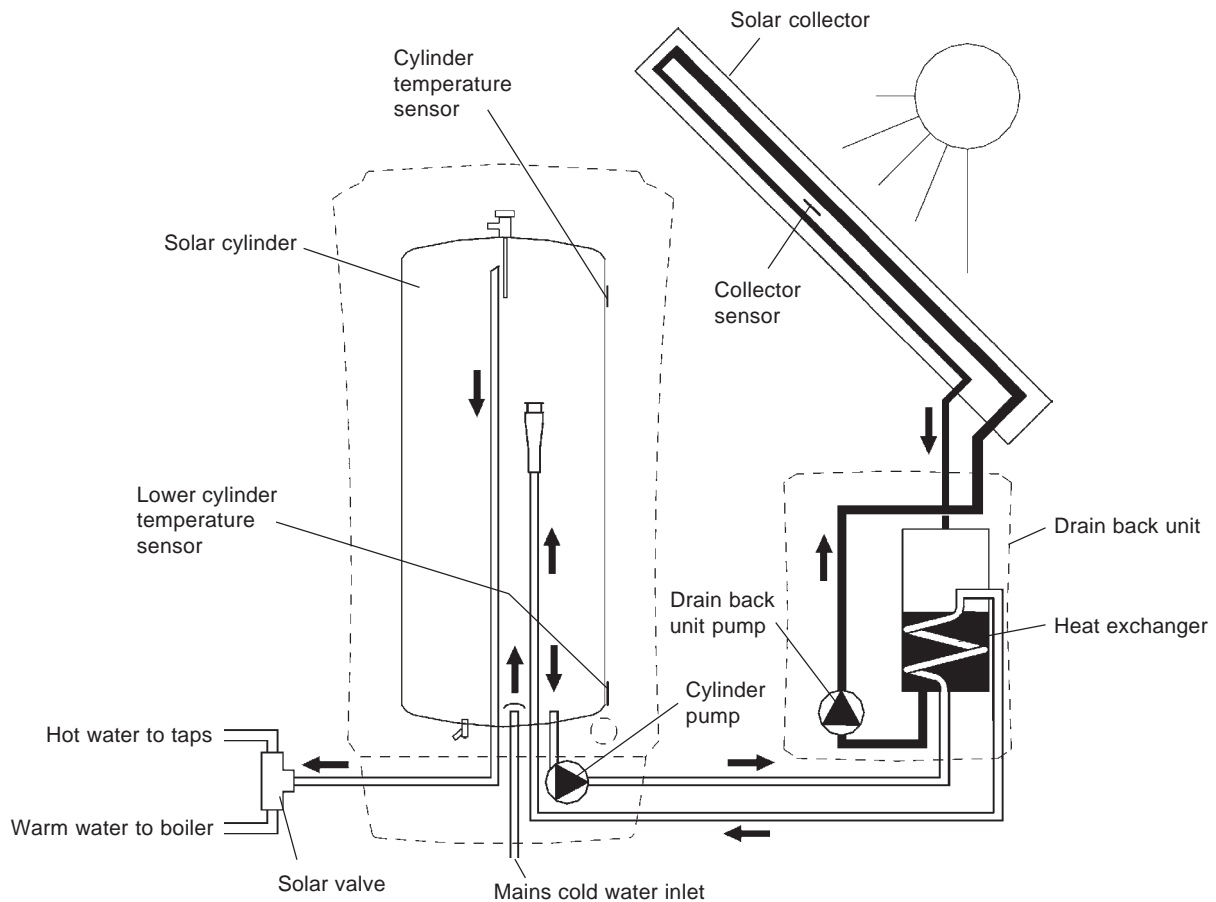

Fig. 21
6.1 WORKING PRINCIPAL - Fig.21
6.2 OPERATION OF THE SOLARSMART SYSTEM - Fig.21
The drain back unit pump (See Fig. 21) is controlled by the PCB. The collector water is circulated in a closed loop through the collector panel where it is heated then passes through the heat exchanger in the drain back unit where heat is transferred to the domestic water from the cylinder.